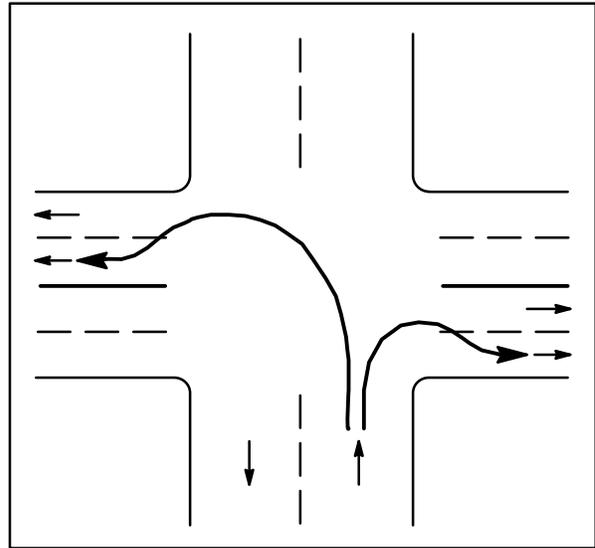

Figure 2-13: If there are two or more lanes going in the same direction, you must turn into the lane nearest you.
**Left and Right Turns.** If there are two or more lanes going in the same direction, you must turn into the lane nearest you, as shown in Figure 2-13. You may have to swing wide into the intersection but cor-